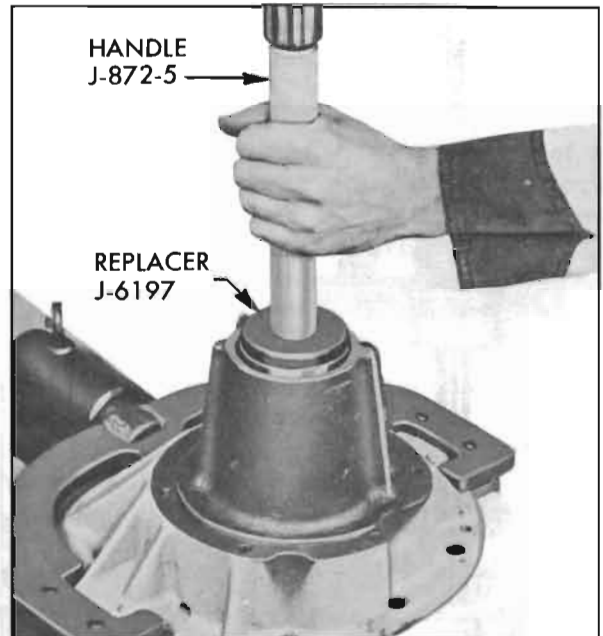

Figure 6-23—Installing Front Pinion Bearing Outer Race
1. Drive front pinion bearing outer race against shoulder in carrier using Replacer J-6197 with driver handle. See figure 6-23.